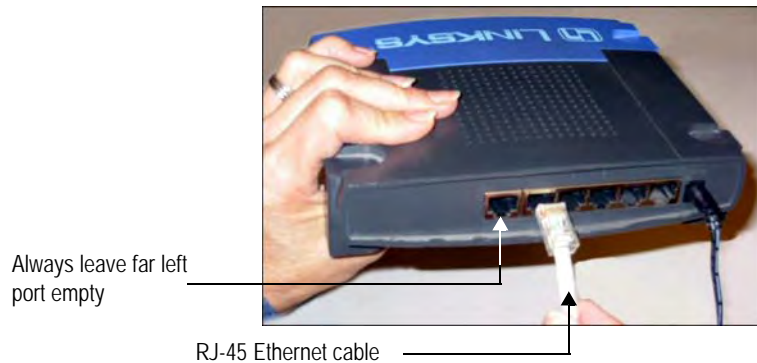

Figure 4.2 Connecting RJ-45 Ethernet Cable to Router, Port 1
- 3 Leaving the far left port empty, connect one end of the RJ-45 Ethernet cable into one of the four slots in the router. See Figure 4.2.